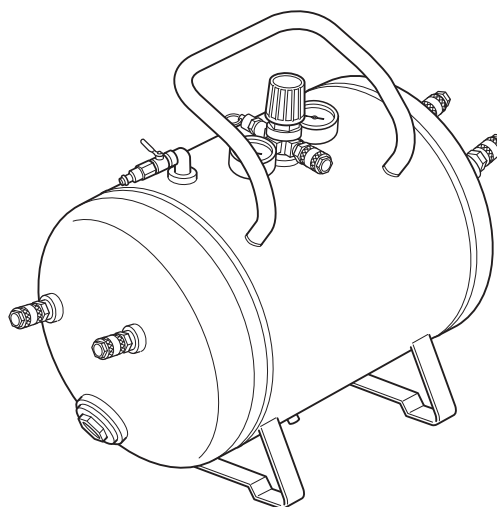

Fig. 4
**⚠ CAUTION:** Ensure all four quick couplers to be well and securely assembled (Fig. 4) before using your storage tank.